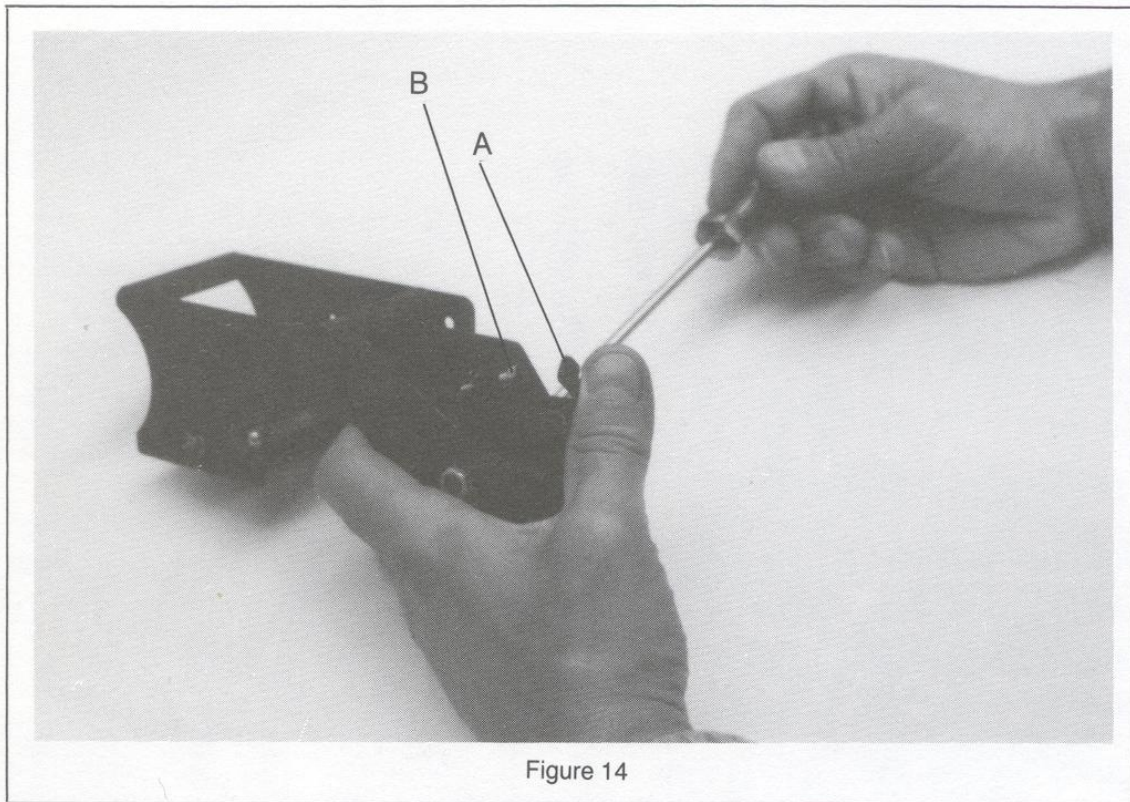

Figure 14
2. The machine may also gain time if the bumper screw setting is too low. This condition causes the cam follower to travel too far, overthrowing the wheels. Check for this condition using the following procedure (***figure 14***):